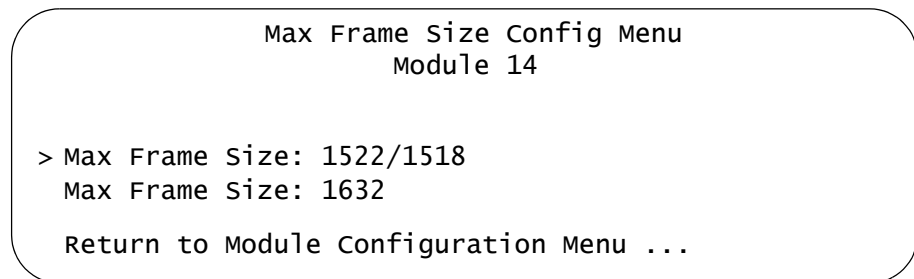

Figure 59. Max Frame Size Config Menu
3. From the Module Configuration Menu, select **Configure Max Frame Size** to display the Max Frame Size Config Menu, shown in Figure 59.